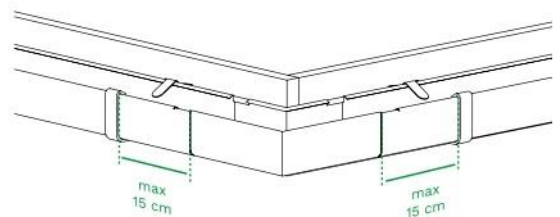

Figure 19
- 5.1. Place the brackets at a maximum distance of 15 cm from the corner (**Fig. 19**).